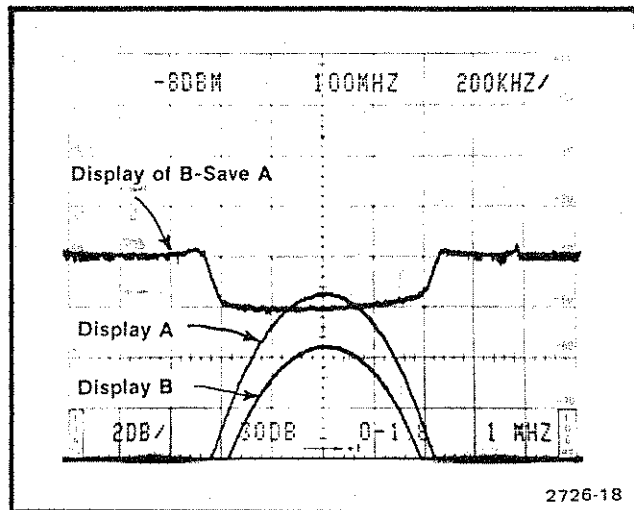

Fig. 3-8. Using digital storage to measure the differential between two events.
d. Activate B-SAVE A and check display. Display should show the difference between display B and display A (see Fig. 3-8).